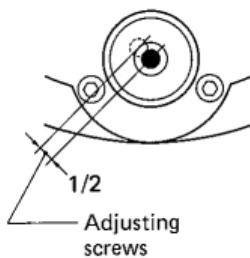

Fig.7.3
- 4) Eliminate the remaining half shift with the circular level adjusting screws ④ using the hexagonal wrench ⑯. (Fig.7.3)